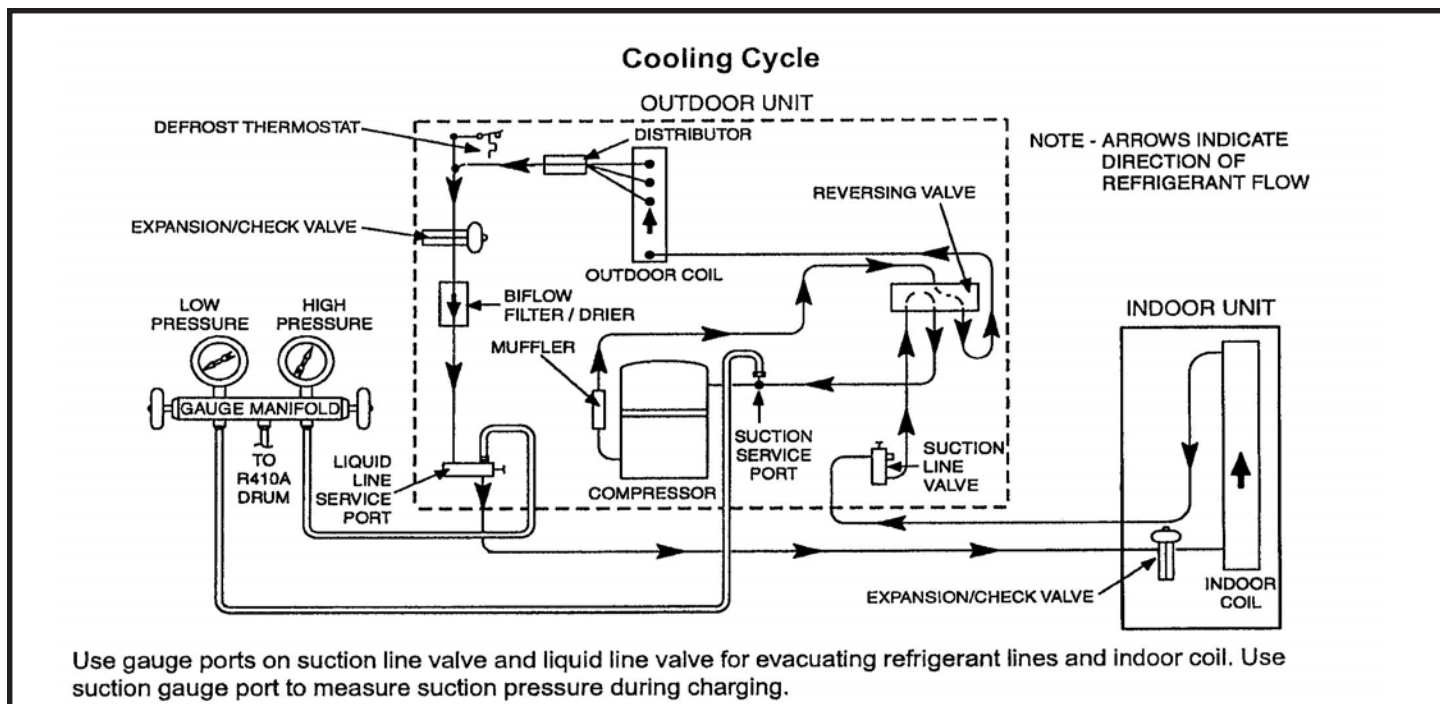

Figure 13
1. Connect the manifold gauge set to the service valve ports as follows (See Figure 13 above):